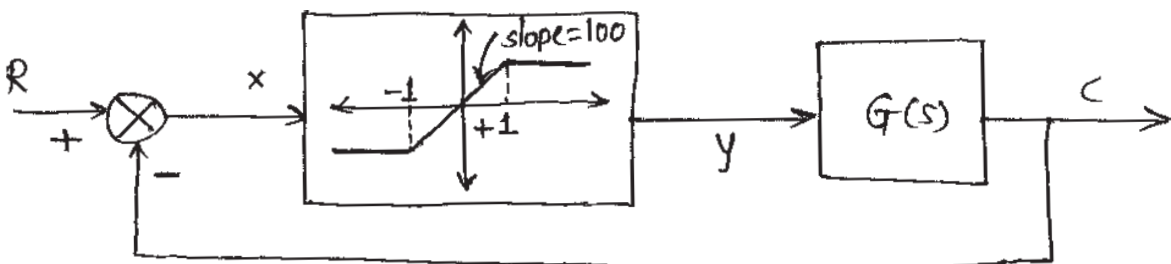

Fig. 4
- Q4) An amplifier as shown in figure 4. Drives a Two phase servomotor. The transfer function of the motor is $G(s) = \frac{k.e^{-0.1s}}{S(0.15s+1)}$